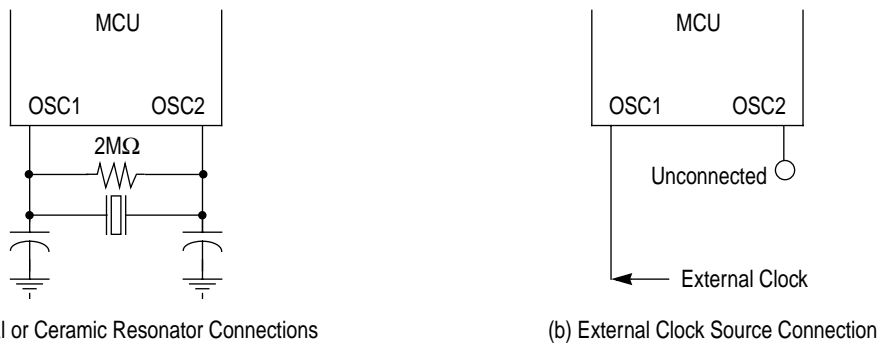

Figure 1-3. Oscillator Connections
1. A crystal as shown in **Figure 1-3(a)**
2. A ceramic resonator as shown in **Figure 1-3(a)**
3. An external clock signal as shown in **Figure 1-3(b)**
The circuit in **Figure 1-3(a)** shows a typical oscillator circuit for an AT-cut, parallel resonant crystal. The crystal manufacturer's recommendations should be followed, as the crystal parameters determine the external component values required to provide maximum stability and reliable start-up. The load capacitance values used in the oscillator circuit design should include all stray capacitances. The crystal and components should be mounted as close as possible to the pins for start-up stabilization and to minimize output distortion. An internal start-up resistor of approximately 2M Ω is provided between OSC1 and OSC2 for the crystal type oscillator as a mask option.
In cost-sensitive applications, a ceramic resonator can be used in place of the crystal. The circuit in **Figure 1-3(a)** can be used for a ceramic resonator. The resonator manufacturer's recommendations should be followed, as the resonator parameters determine the external component values required for maximum stability and reliable starting. The load capacitance values used in the oscillator circuit design should include all stray capacitances. The ceramic resonator and components should be mounted as close as possible to the pins for start-up stabilization and to minimize output distortion. An internal start-up resistor of approximately 2 M Ω is provided between OSC1 and OSC2 for the ceramic resonator type oscillator as a mask option.
An external clock from another CMOS-compatible device can be connected to the OSC1 input, with the OSC2 input not connected, as shown in **Figure 1-3(b)**. This configuration is possible **ONLY** when the crystal/ceramic resonator mask option is selected.